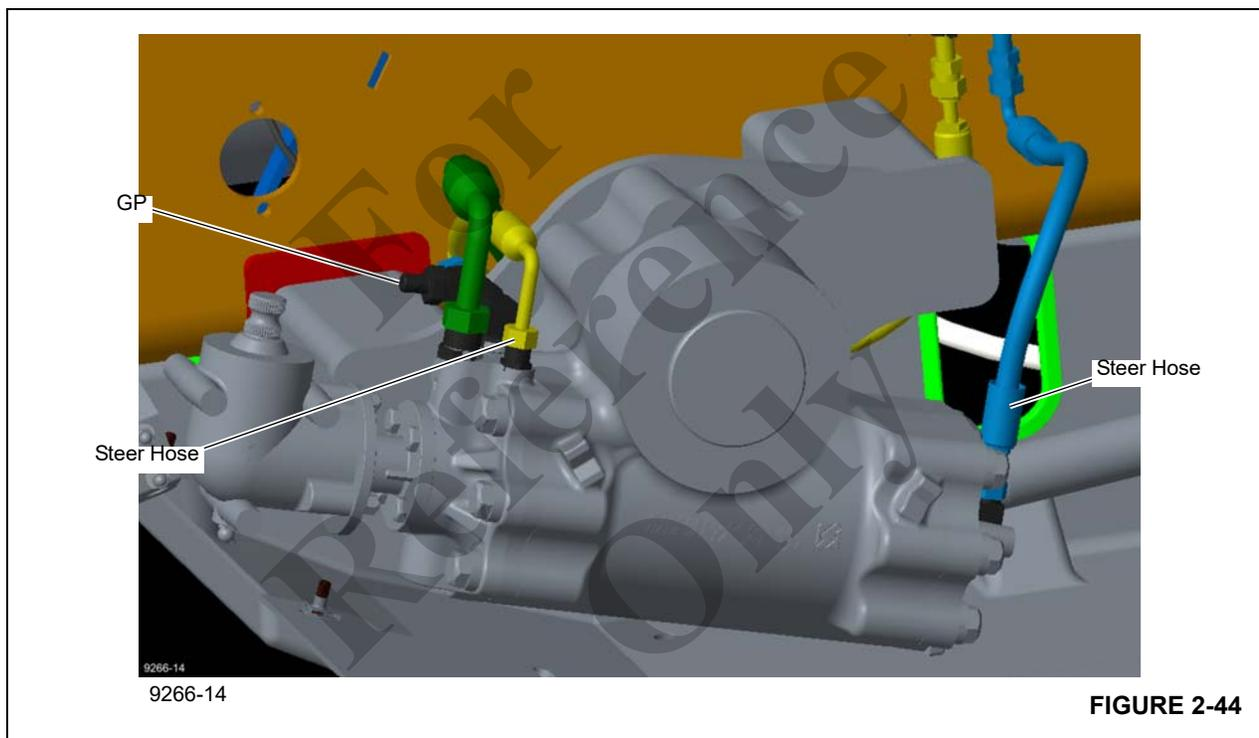

FIGURE 2-44
1. With the engine off, install a pressure check diagnostic coupler (Parker PD240) with gauge onto the diagnostic nipple at the GP port of the power steering gear box. (Figure 2-44).
2. Disconnect and plug one steer hose and cap the fitting. (Figure 2-44).